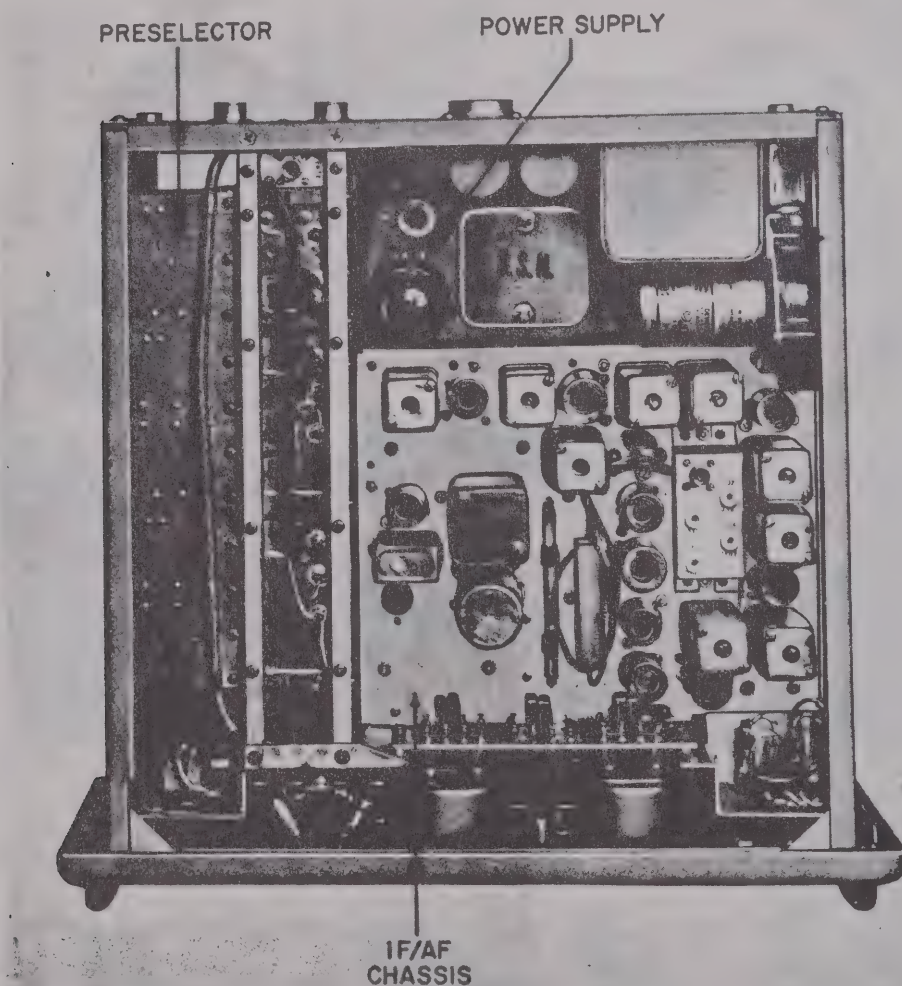

Figure 1-4. Radio Receiver R-482/URR-35, Identification of Major Subassemblies
b. FRONT PANEL AND CHASSIS FRAME ASSEMBLY.—An aluminum frame, attached to the front panel, mounts the preselector, IF/AF and power supply chassis to form a complete chassis assembly; see figure 1-4. The panel is finished in a gray enamel, which blends with the color of the cabinet and is fitted with handles to permit withdrawal of the panel-
c. PRESELECTOR SECTION. (See figures 1-4, 2-2 and 2-3.)—The preselector section is mounted along the left side of the chassis frame, and comprises all parts of the r-f amplifier-converter and oscillator-multiplier sections. The r-f amplifier section is above the oscillator-multiplier section, and each consists of an aluminum casting with removable covers. The two r-f amplifier stages and the mixer, or first detector, are mounted in the r-f amplifier-converter section. The basic oscillator, two frequency-doubler stages and a frequency-tripler stage are mounted in the oscillator-multiplier section. Partitions in the castings provide r-f shielding between stages.
e. IF/AF SECTION.—The IF/AF section of the chassis is shown in figure 1-4. It is located on the right-hand side of the chassis frame, and mounts the second mixer and oscillator, the i-f stages, the a-f detector, the automatic-gain-control (AGC) circuit, the silencer circuit, the noise-limiter circuit, and the three stages of audio amplification.
f. POWER SUPPLY SECTION.—The power supply section of the chassis, shown in figure 1-4, is mounted